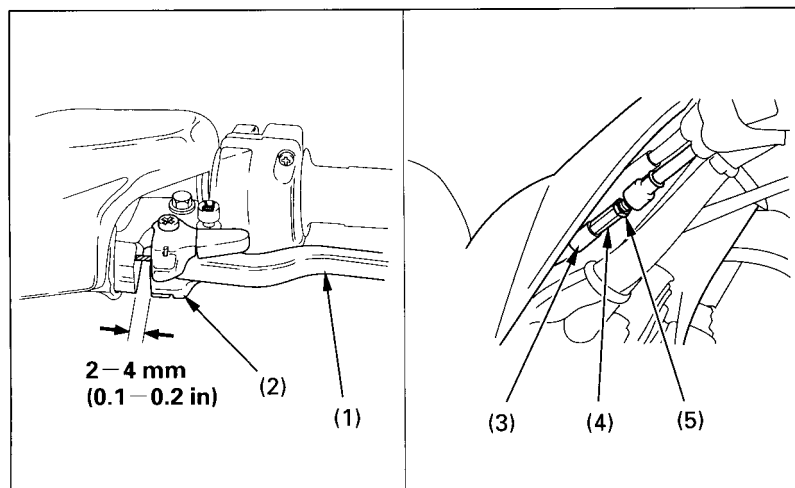

Fig. 4-18 (1) Rear brake lever
Measure the reverse assist lever (2) free play. Free play, measured at the lever (2) end near the cable (Fig. 4-18), should be approx: